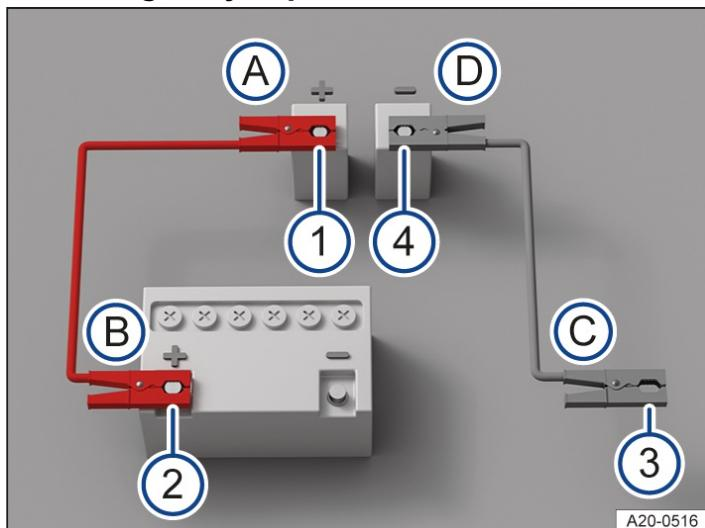

Fig. 1 Schematic diagram of how to connect the jump leads.
The jump leads should be connected only in the order A – B – C – D → *Fig. 1*.
3. Connect one end of the *red* jump lead to the positive battery terminal jump-start connection point(+) of the electric vehicle with the discharged 12-volt vehicle battery → *Fig. 1* 1 → .